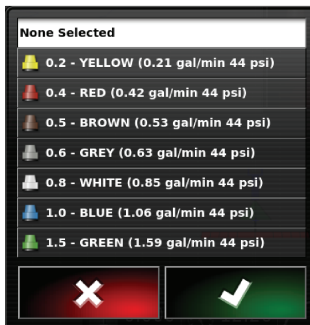

Figure 12
- Press the correct nozzle (Figure 12).